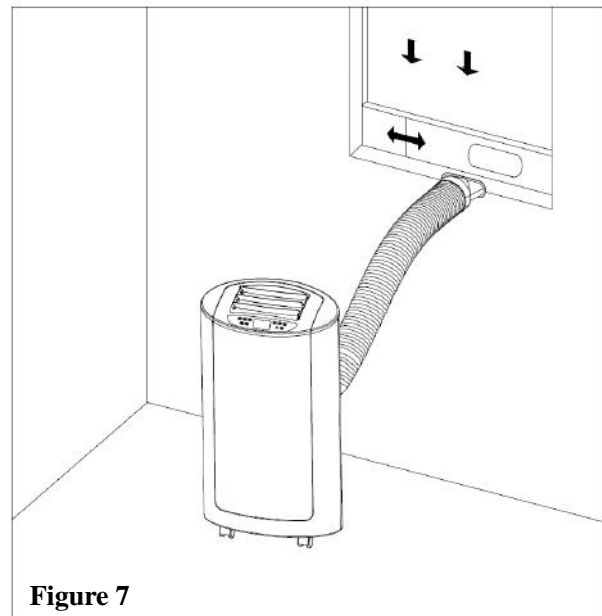

**Figure 5**
4. Please make sure the unit is upright. The unit should be placed on the even floor with the minimum distance 50cm away from furniture and walls (Figure 5).